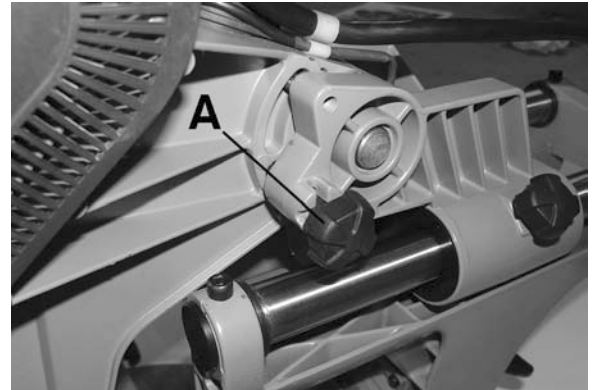

Figure 3
4. The saw has been shipped with the saw head locked in the down position. To release the saw head, push down on the top of the saw arm, pull then turn the the saw head release knob (A) Fig.3.